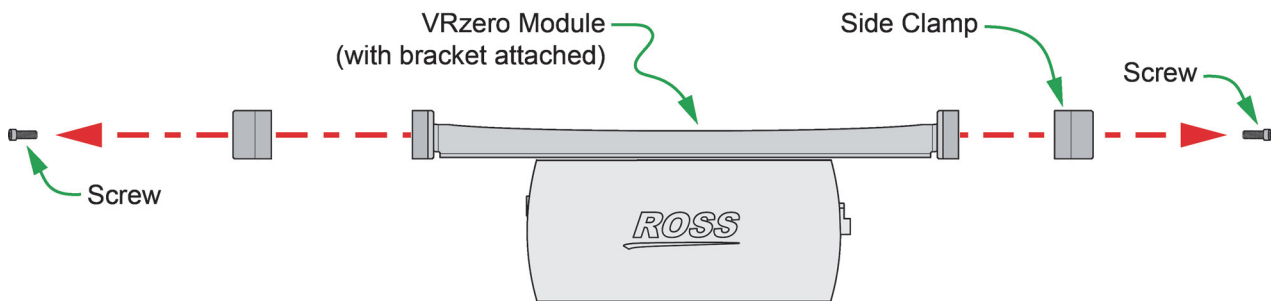

Figure 3.4 - Removing Side Clamps
- a. Using a 4mm hex key, remove both side clamps from the mounting bracket (see **Figure 3.4**).